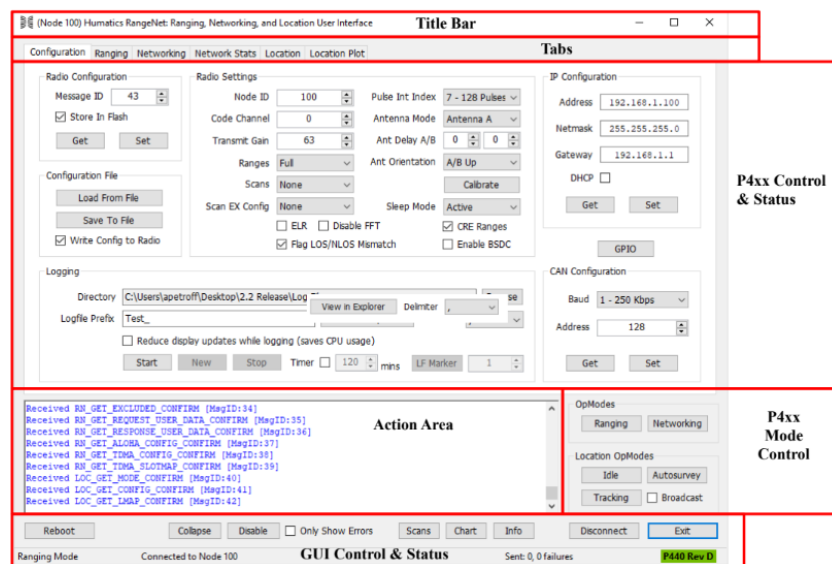

Figure 6 RangeNet layout.
2. **Assigning Node IDs:** After connecting, assign a unique node ID to each radio through the RangeNet GUI. See Figure 6 (RangeNet layout) for guidance on navigating the layout.